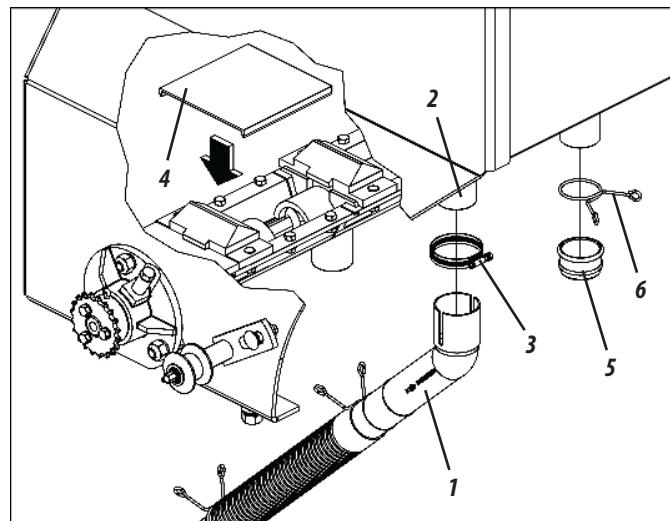

Figure 32
- Fit the spouts (1) in the distributor outputs (2) through the clamp (3), making the connection of spouts that are closer to the lines, preventing them from getting bent or folded.
- The fertilizer outputs that will not be used must be closed with caps (4) inside the tank with the cap (5) through the clamp (6) at the external outputs, this will prevent fine fertilizer particles from falling onto the seed drill, as shown in Figure 32.